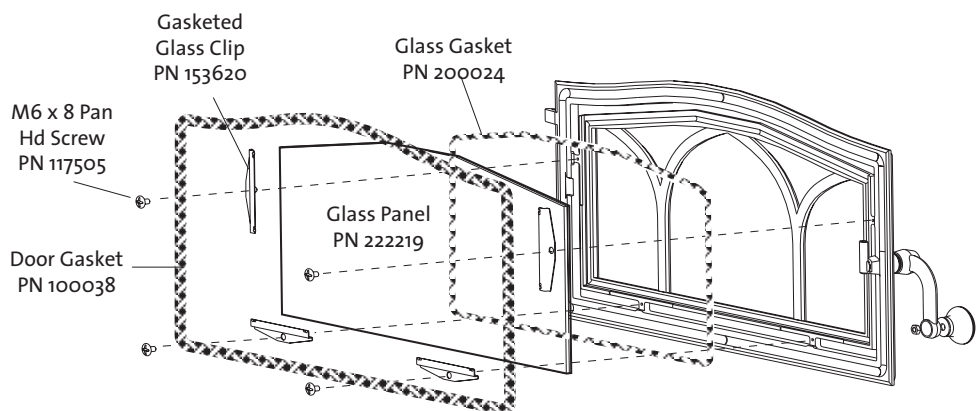

Figure 19.
2. First loosen and then carefully remove all of the glass clips from the inside of the door. See fig. 19.